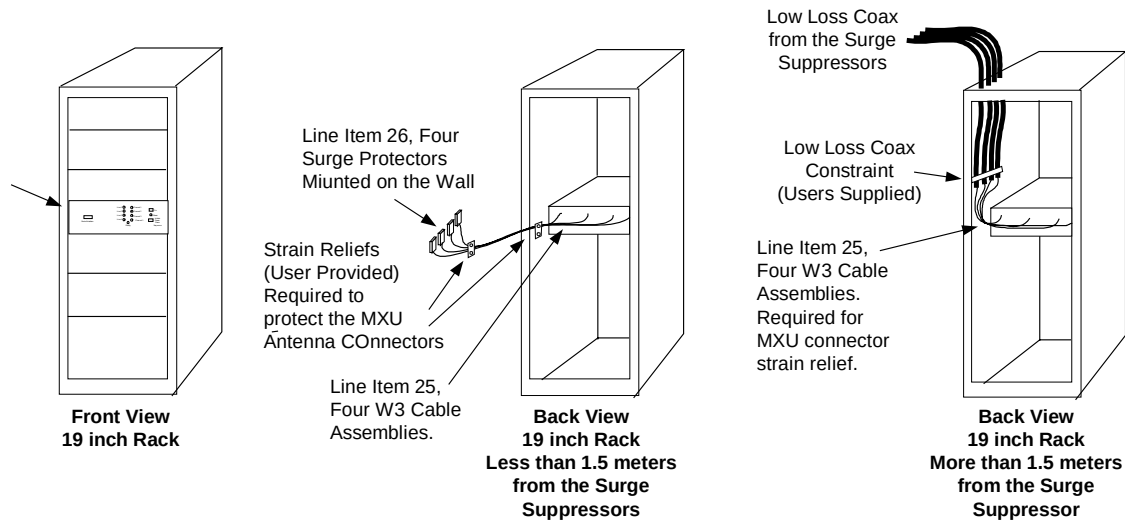

Figure 4.1-1: Console Mounting
The NOMAD MXU is designed to be mounted in a standard 19 inch rack as illustrated in left front view of figure 4.1-1. Slides, shelves or supports to mount the MXU in a rack are not included in the MXU package.
Interconnection of the antenna to the NOMAD MXU is covered in section 4.3.2; however, the location of the MXU console is directly related to the length of the cables supplied with the NOMAD MXU. If the back of the NOMAD MXU is mounted less than 1.5 meters from the surge protectors (Line Item 26), the standard W3 cables (line item 25) supplied with the MXU will work as illustrated in the center view of Figure 4.1-1. If the back of the NOMAD MXU is mounted more than 1.5 meters of the surge protectors, the user will have to procure custom cables as defined in Appendix “B” of this document and illustrated in the right view in Figure 4.1-1.